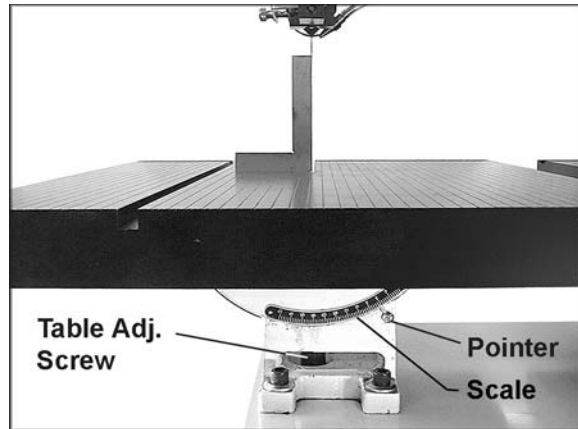

Figure 11
1. Place the table in horizontal position with "0" on the scale (Figure 11).
3. If the square is not flush against the blade, loosen the screw below the table (Figure 11) with a 26mm wrench (provided).